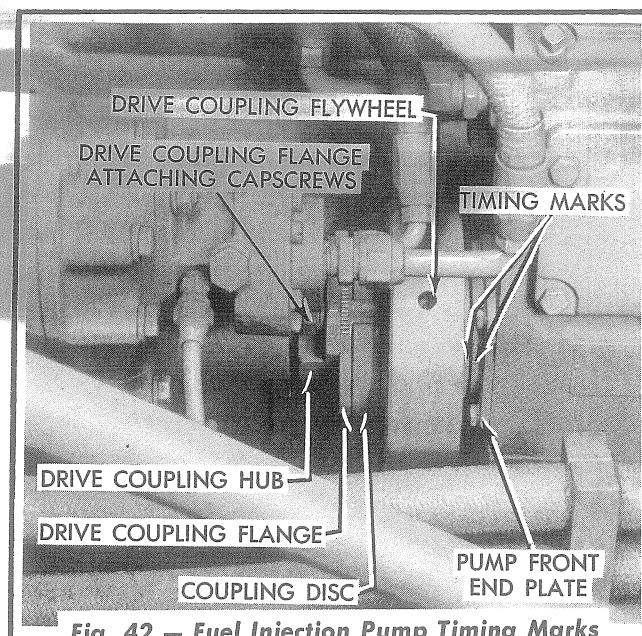

Fig. 42 — Fuel Injection Pump Timing Marks (Tractors Serial No. 4001 and Above)
- c. Loosen the two drive coupling flange attaching capscrews (Fig. 42), just enough so that the drive coupling flange may be turned slightly for alignment with the coupling disc when the pump is placed in position.
- i. Observe the timing mark on the pump front end plate and the corresponding timing mark on the drive coupling flywheel (Fig. 42) to see if they are properly aligned. If a slight misalignment is observed, turn